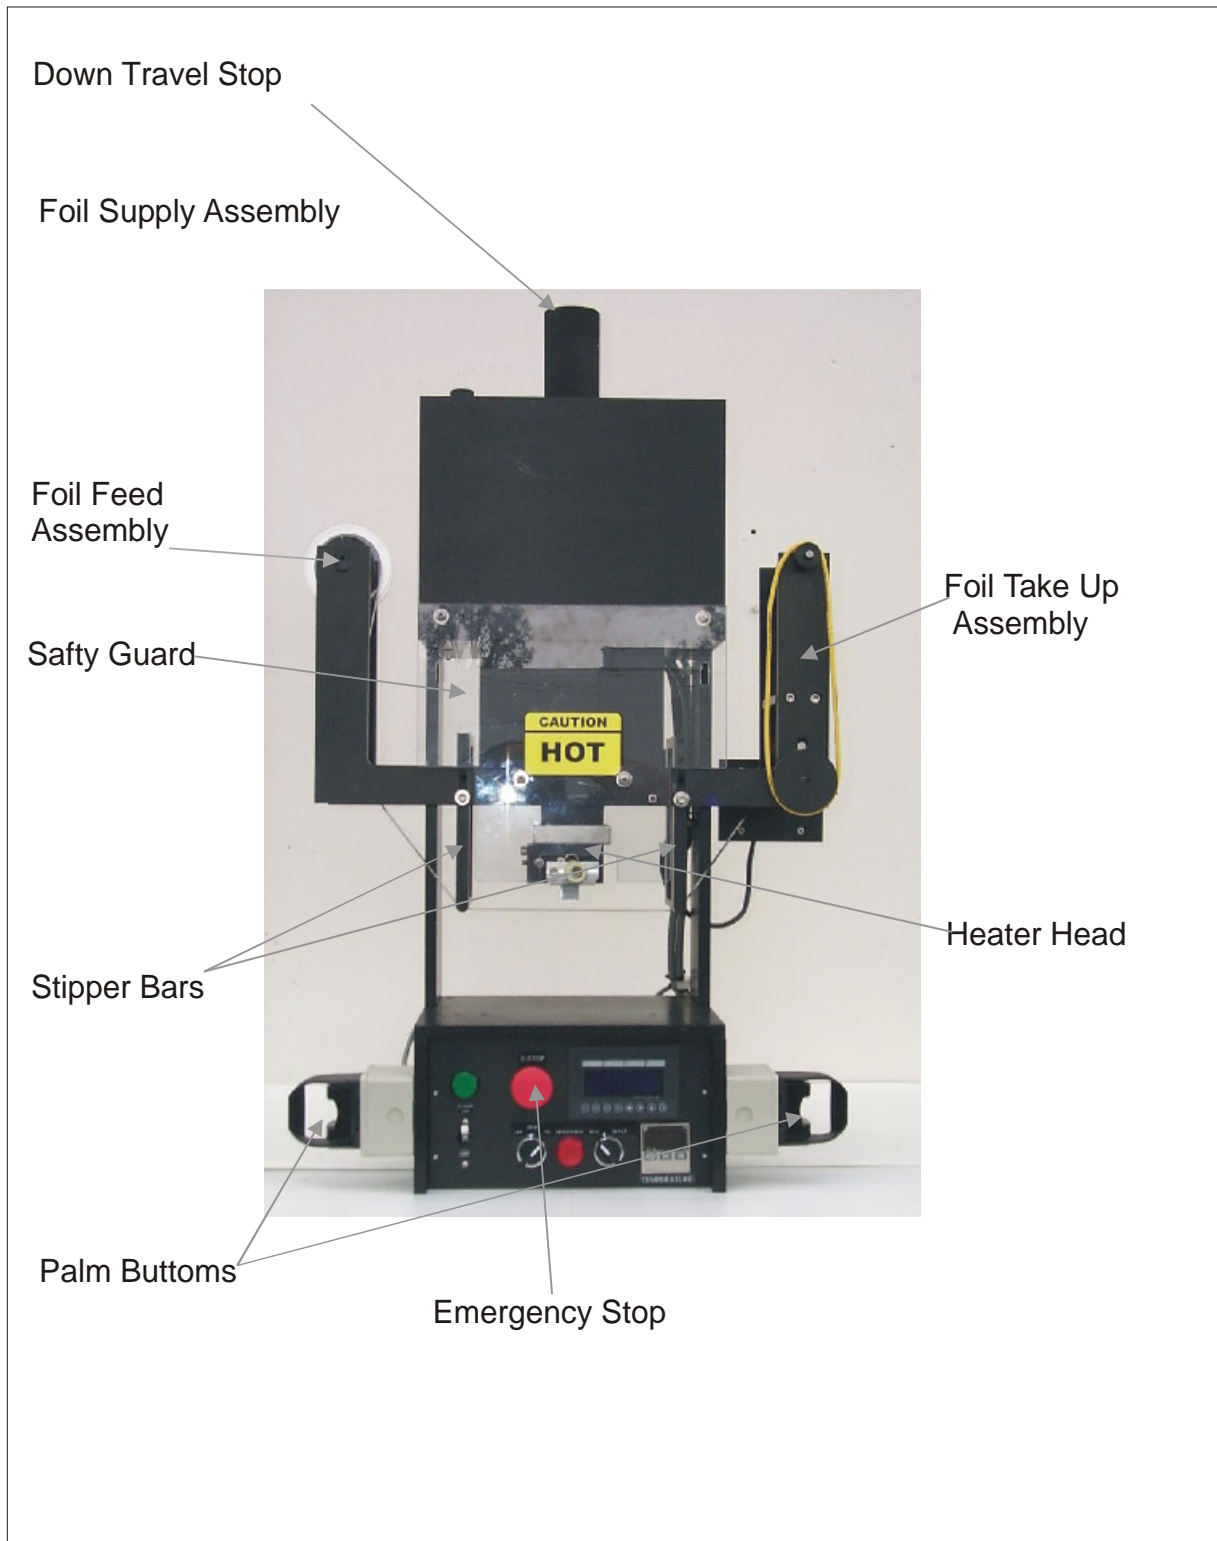

Fig 1.1
4. *The foil feed assembly* (Fig 1.1)
5. *The hot stamp die* (Fig 1.1)
6. *The nest* (Fig 1.1)
2. Remove Foil Supply Assembly (fig 1.1)